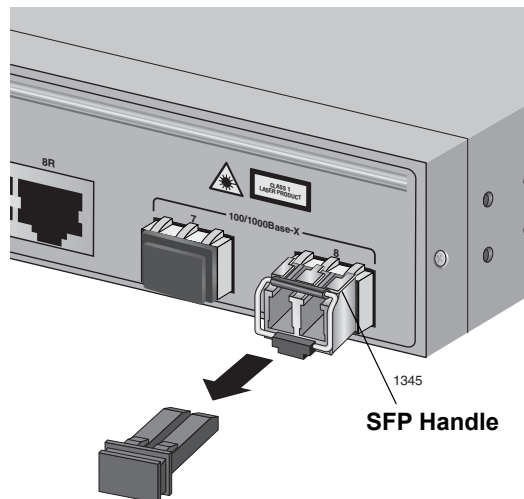

Figure 16. Removing the SFP Cover
5. Verify that the handle on the SFP transceiver is in the upright position, as shown in Figure 16, to prevent inadvertently removing the transceiver.
6. Remove the SFP cover as shown in Figure 16.